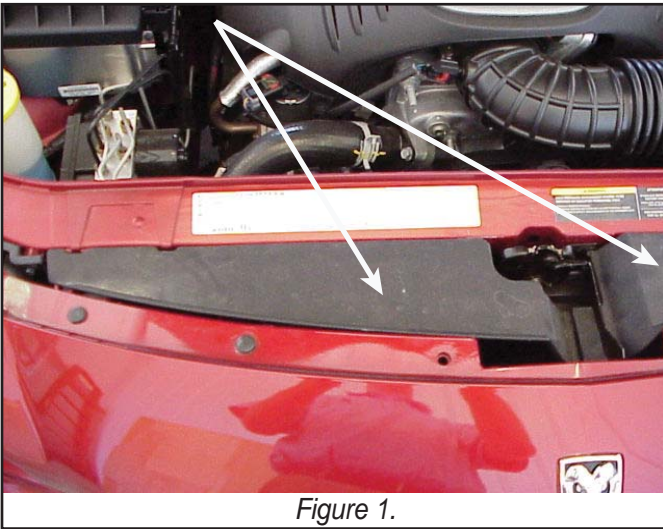

Figure 1.
1. Open hood, locate and remove 2 plastic shields that are between radiator cross bar and grille. See figure 1.